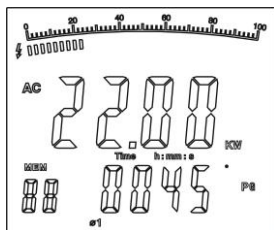

Figure 7
1. Press **SEL** to choose first phase 01, see figure 7. The double displays show the active power kW value and the PG value of the second phase 1.